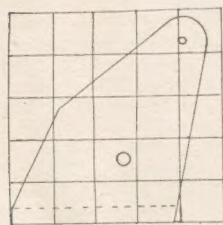

Fig. 7—Side of winding mechanism
To enable the worker to get an outline of the sides (K) we have included a squared diagram (½ in. squares). All he has to do, therefore, is to draw a series of ten squares and follow the lines through them, fixing also the positions of the holes shown in Fig. 7.